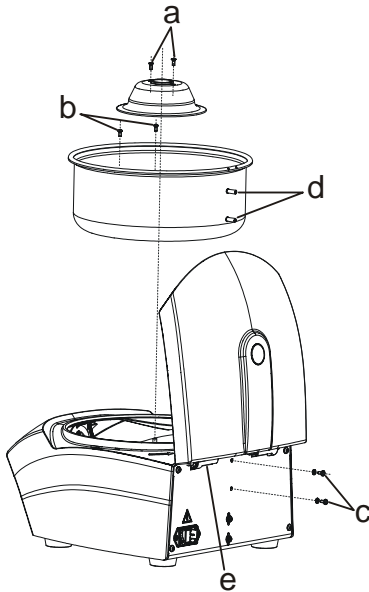

Fig. 3
- Undo both screws (Fig. 3, a) on the motor cover and remove the motor cover.
- Undo both screws in the centrifuge chamber (Fig. 3, b) and both screws at the rear panel (Fig. 3, c).
- Turn the centrifuge chamber about 45° to the left, so that both threaded bolts (Fig. 3, d) will be located side of the leg spring (Fig. 3, e).